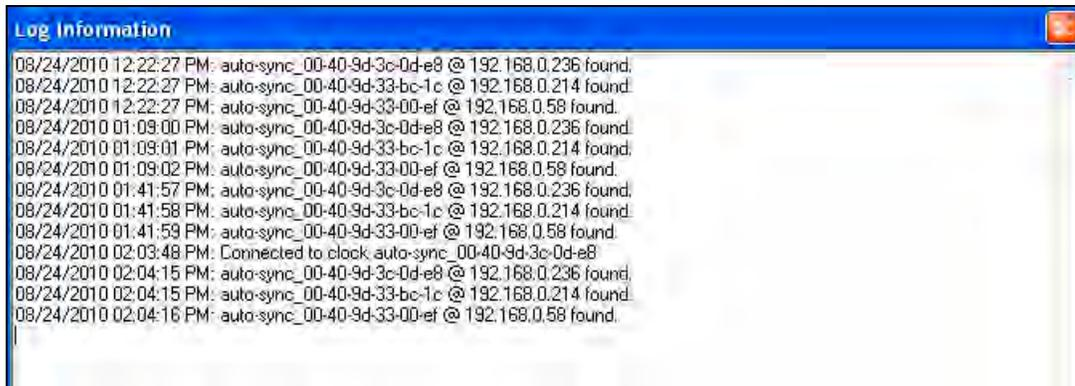

Figure 5-18. View Utility Log Information.
- **Log** – Use this function to view a continuous log of Auto-Sync Utility functions (see *Figure 5-18*) from the **auto-sync_Util.log** file. The log is arranged in ascending order by date.